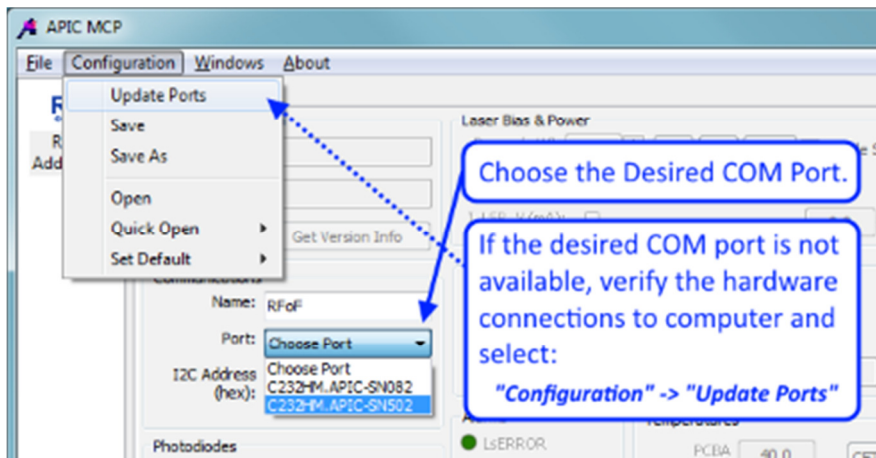

Figure 11 - Selecting Desired COM Interface
5. You are now presented with a controller view for the target hardware. Note that all of the controls are disabled on first launch. To start communicating with the target and enable these controls, select the appropriate Port as illustrated in Figure 11.